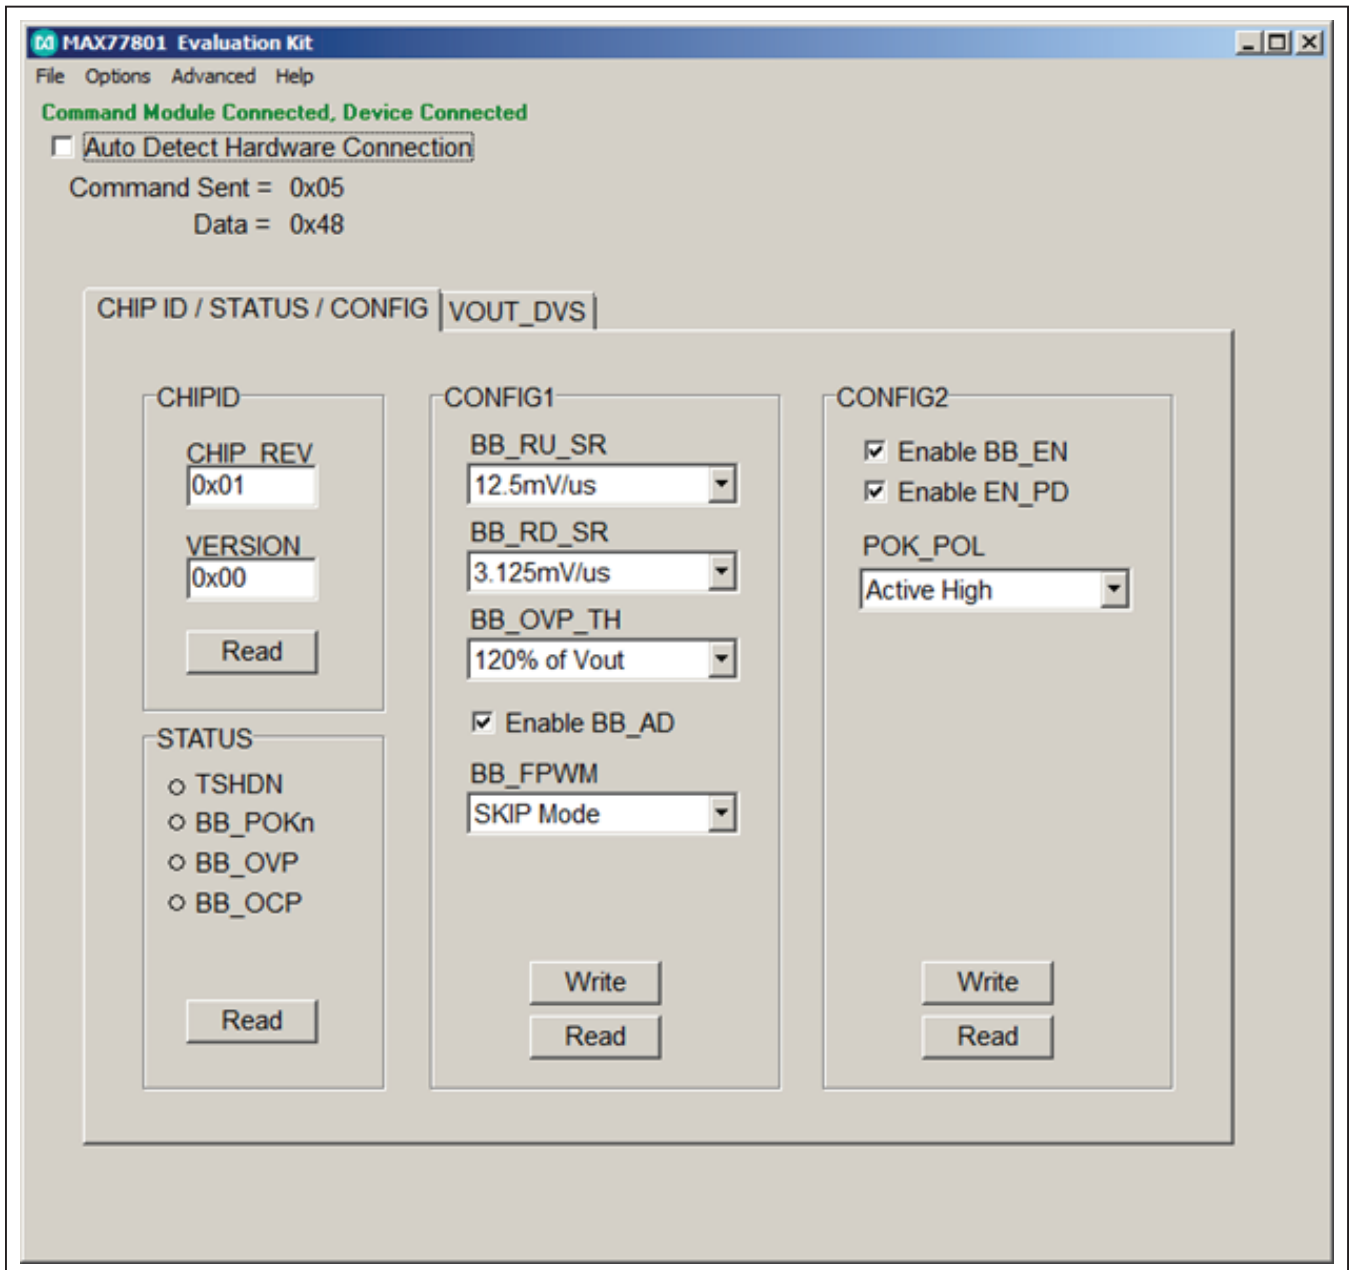

Figure 2. MAX77801 Evaluation Kit Software Window (CHIPID/STATUS/CONFIG Tab)
- 11) Start the EV kit software by opening its icon in the **Start | Programs** menu. The EV kit software main window appears, as shown in Figure 2.
The GUI shown in Figure 2 is the main window of the MAX77801 EV kit software that provides a convenient means to control the MAX77801 IC. Use the mouse or press the Tab key to navigate through the GUI controls.
The EV kit software main window consists of two tabs, **CHIPID/STATUS/CONFIG** (Figure 2) and **VOUT\_DVS**